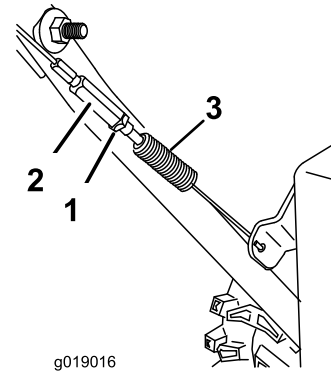

Figure 19
3. Tighten the jam nut (Figure 19).